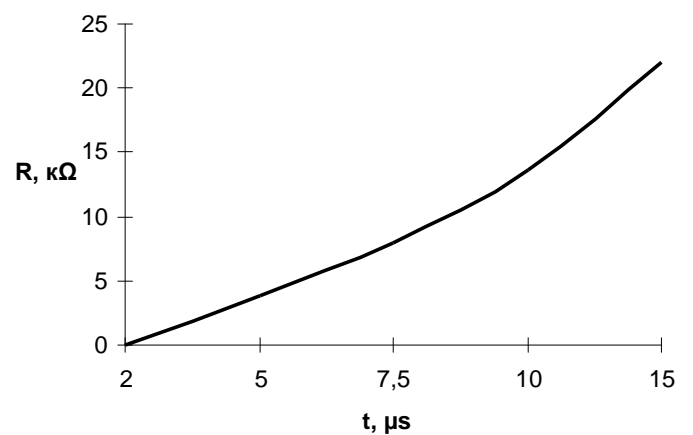

Figure 10 – “Dead time” duration versus trimming resistor R_{TD} nominal
| «Dead time» between signal changes of the first and second output channel | t_{TD} | μ s | 2 | | | Set by consumer; ref. to Figure 10 |
If there is no need for increasing of switching delay time, then you shall install the jumpers instead of resistors. The dependence of delay time on the resistor nominal is shown at Figure 10. Initially the resistors of 1 Ω nominal are installed that corresponds to minimum “dead time” (2 μ s).
- set up “dead time” by Rdt resistors in compliance with the Figure 10;